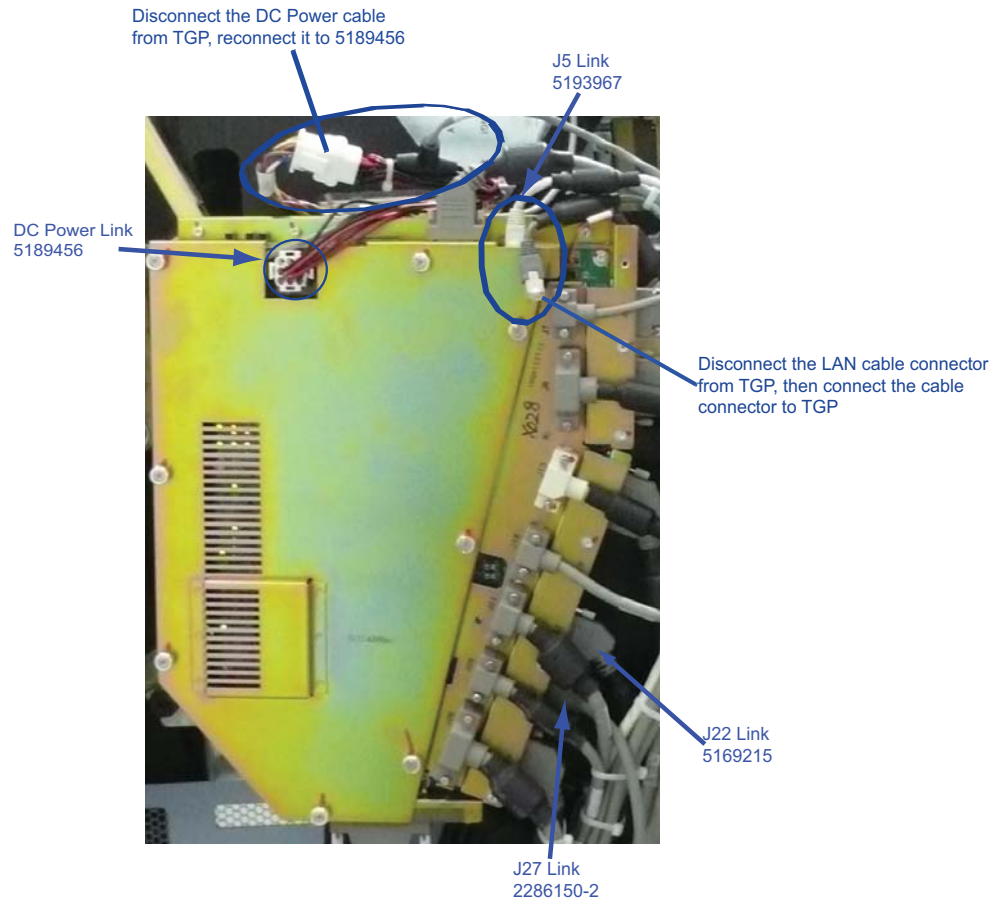

Figure 2-10 TGPU Connection
(Refer to Figure 2-10 through Figure 2-15 for further information)
- 3.) Disconnect the DC Power cable from TGP, reconnect it to 5189456. Connect cables 5189456, 5193967, 5169215 and 2286150-2 to DC Power, J5, J22 and J27 of TGP BD according to their labels. as shown in Figure 2-10.